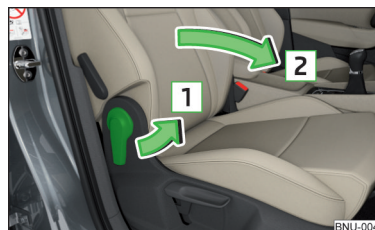

Fig. 82
- To **fold down**, pull the lever in direction of arrow , fold the seat backrest in the direction of arrow  » Fig. 82. The locking mechanism must audibly snap into place.